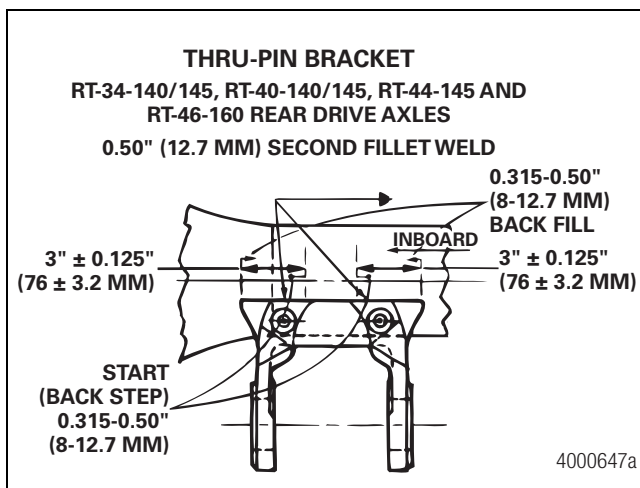
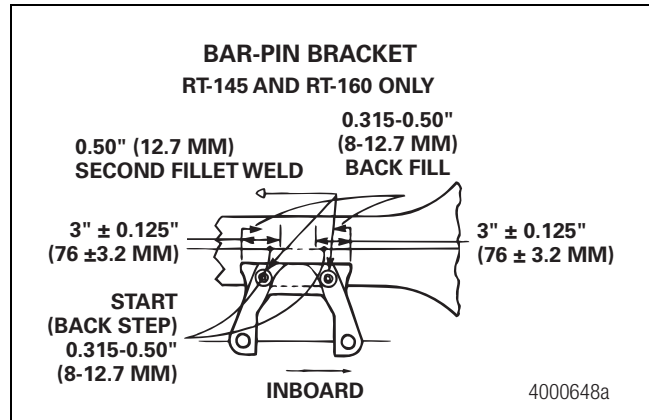

Figure 3.28
Figure 3.29
- E. Apply the second fillet weld to increase the fillet size to 0.50-inch (12.7 mm) only at each end of the bracket as shown in Figure 3.28 and Figure 3.29. This will allow clearance for the slack adjuster.